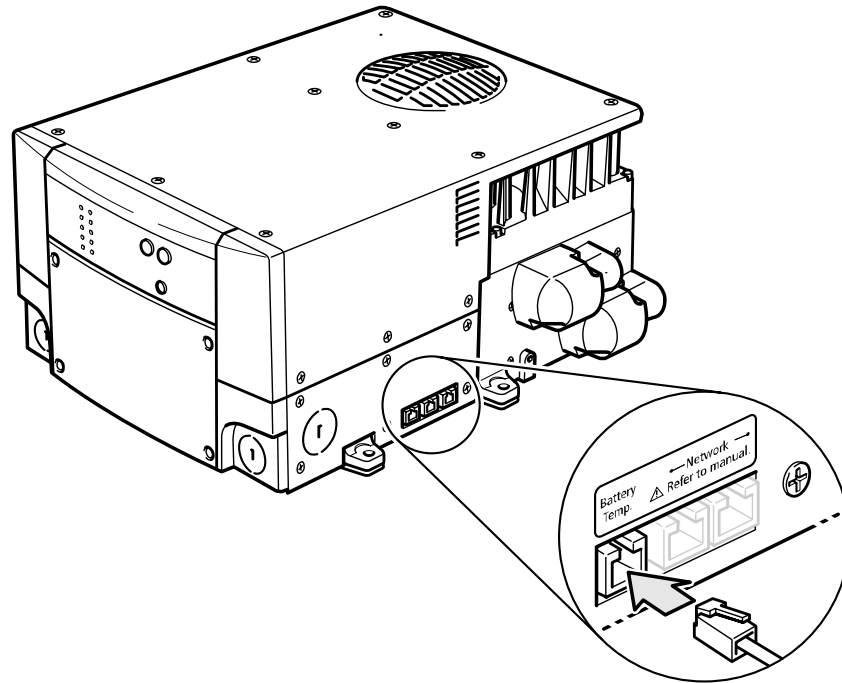

Figure 12 Connecting the BTS Cable to Battery Temp. jack
9. Route the sensor cable to the inverter/charger and plug it into the Battery Temp jack, as shown in Figure 12. Secure the cable along its length.
6. Route the sensor cable to the inverter/charger and plug it into the Battery Temp. jack, as shown in Figure 12. Secure the cable along its length.